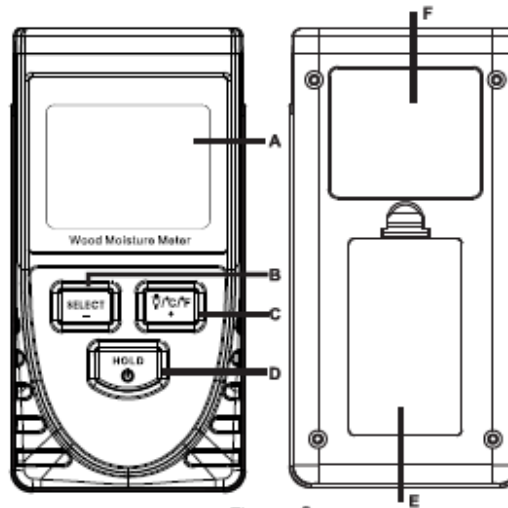

Figure 2
2. Part name: as shown in (Figure 2)